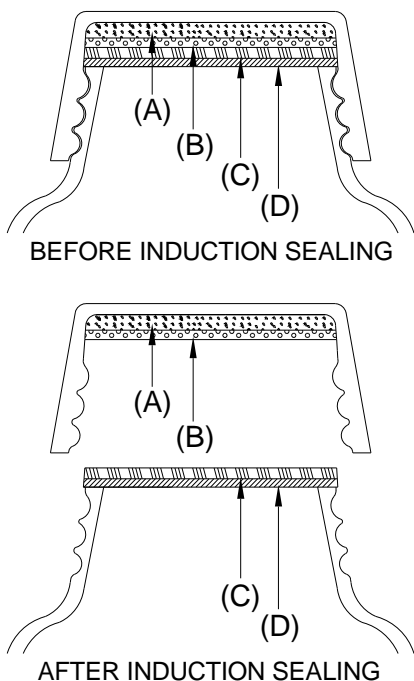

Figure 1
A multiple layer liner (Figure 1) typically consists of a pulp board layer (A), a wax layer (B), and a layer of aluminum foil (C) coated with a polymer (D).